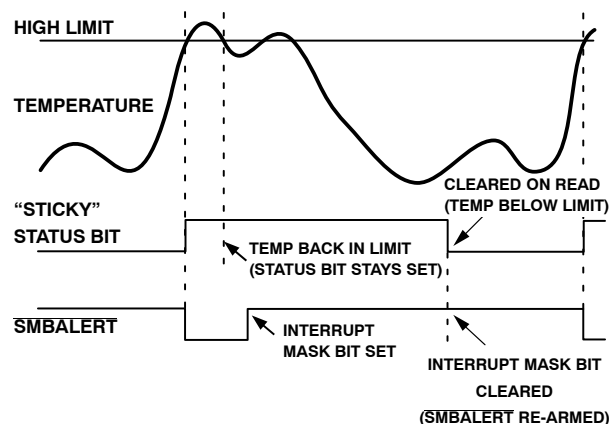

Figure 31. How Masking the Interrupt Source Affects $\overline{\text{SMBALERT}}$ Output
7. Periodically poll the status registers. If the interrupt status bit has cleared, reset the corresponding interrupt mask bit to 0. This causes the $\overline{\text{SMBALERT}}$ output and status bits to behave as shown in Figure 31.